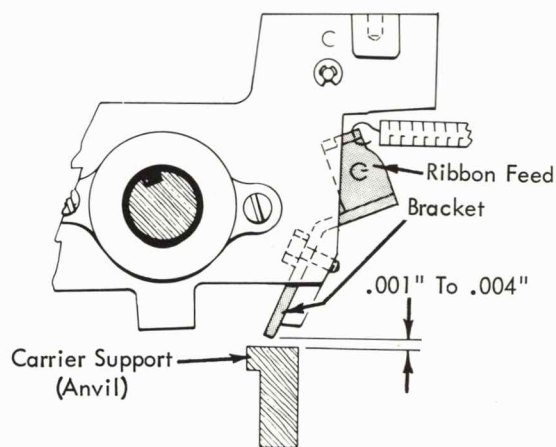

FIGURE 97.1 Carrier Support (Long Carriage Machines)
6. Carrier Support (long carriage machines) - Adjust both ends of the support vertically to maintain .001" to .004" clearance with the bottom of the ribbon feed bracket along the entire length of the writing line (Fig. 97.1).